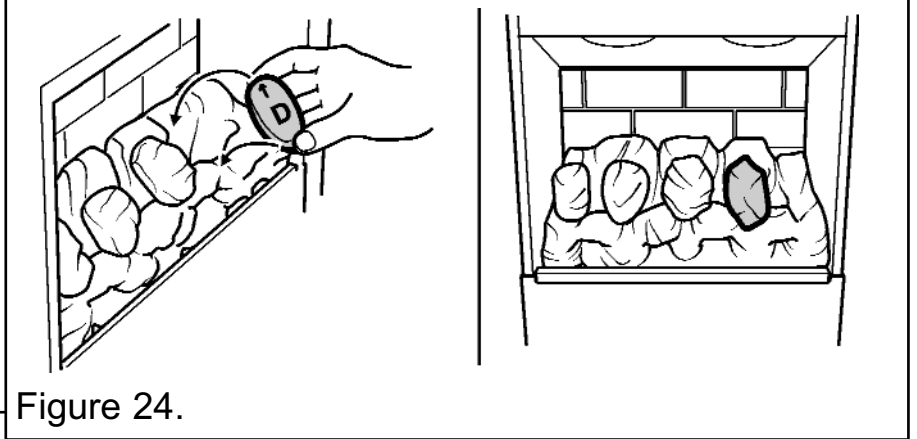

Figure 24.
5. Hold coal 'D' upright with the arrow pointing to the top. Locate coal 'D' as shown in figure 24.